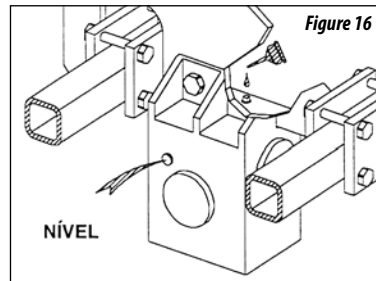

Figure 16
- 01 - Check the oil level in the gearbox figure 16 daily, and complete as necessary.